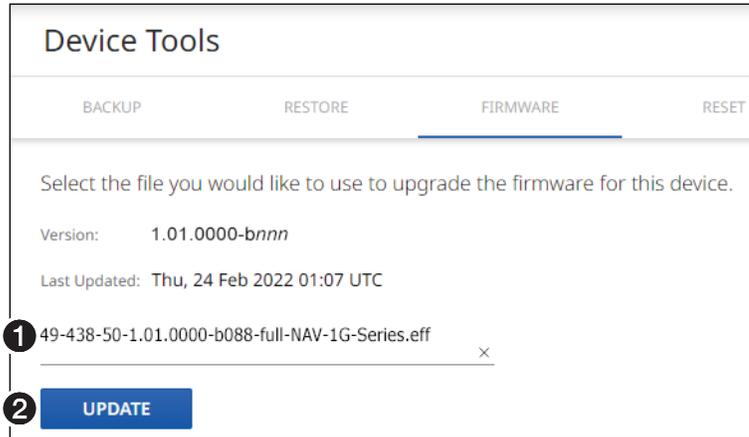

Figure 26. Device Pane with Firmware File Identified
4. Click **Open** (❷). The Open dialog box closes and the Tools pane returns to the top, with the selected firmware file identified (see figure 26, ❶ on page 31).